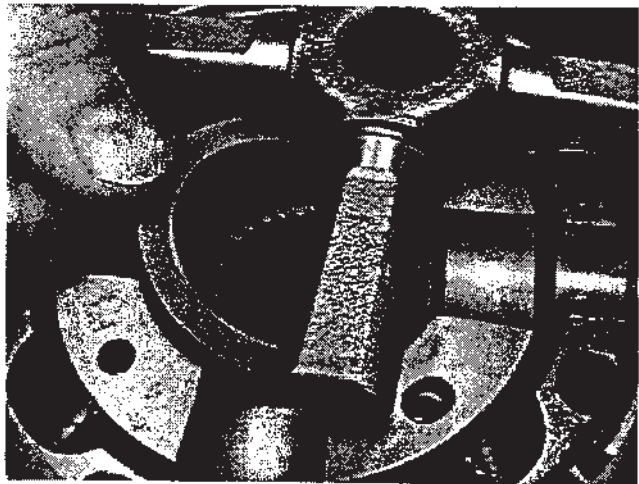

Figure 4
2. Place one of the drivers on the side gear with the teeth meshed and place a spacer in the center (**Figure 4**).
3. Place the spider in the recesses in the case. Tap it lightly to seat it (see **Figure 4**).